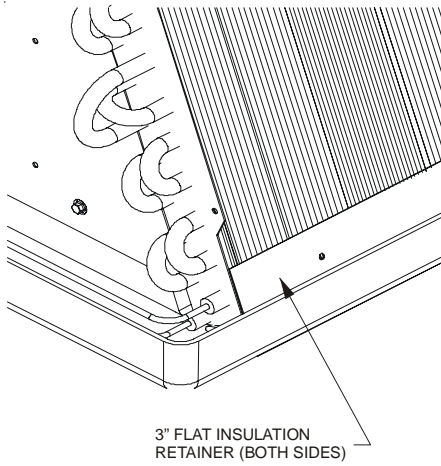

Figure 4
10. To prevent possible condensate “blow off” the insulation retainers are to be laid into the evaporator coil pan as shown in **Figure 4.**